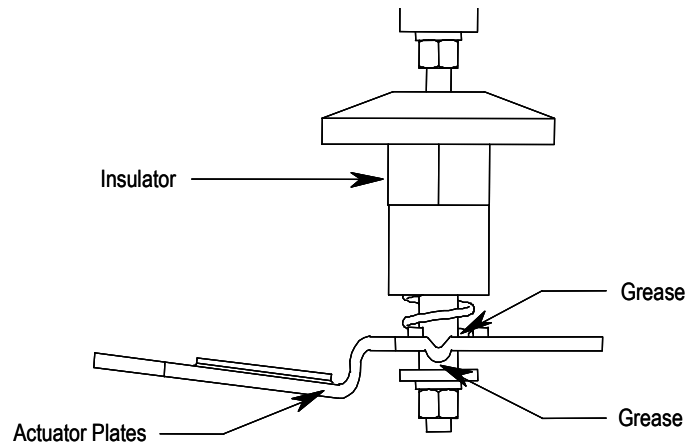

Figure 4.2 – Grease Locations
- Using Aeroshell No. 7 (1 oz. tube, Part No. 40025-198-01) grease the actuator plate where the overtravel springs and washers make contact (Figure 4.2).